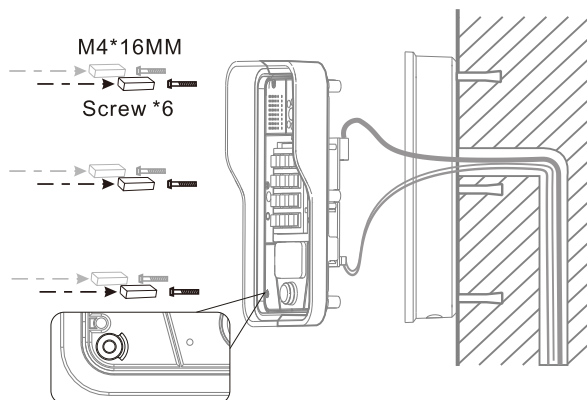

Figure 8
1. After locking the 6 screws into the corresponding position of the plastic housing, the 6 conductive sponges is loaded into a screw hole. As shown in Fig. 8, the rear shell is locked.